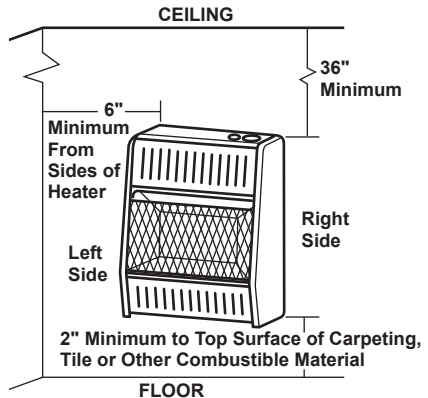

Figure 4 - Mounting Clearances as Viewed From Front of Heater
**WARNING:** Maintain the minimum clearances shown in Figure 4. If you can, provide greater clearances from floor, ceiling, and joining wall.
**WARNING:** Maintain minimum clearances shown in Figure 4, page 8. If you can, provide greater clearances from floor and joining wall.